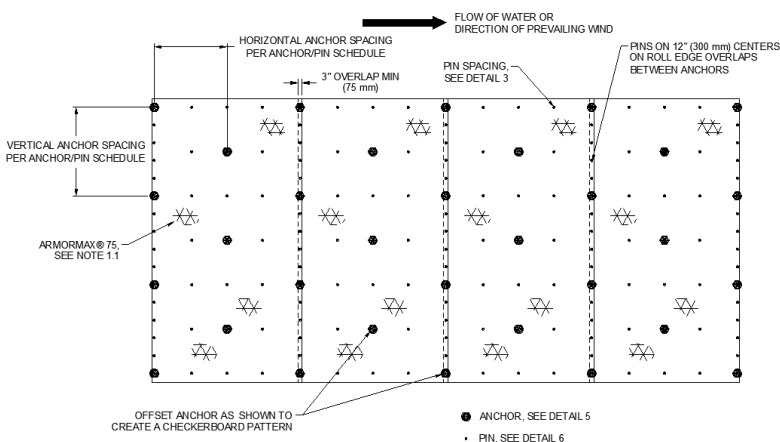

**Figure 9: Perpendicular Placement of PROPEX Armormax across Channel**
9. Unroll the **PROPEX** Armormax roll on the channel surface in the area to be armored. (Figure 9) Ensure that the material has intimate contact with the ground and all irregular surfaces beneath it are removed.